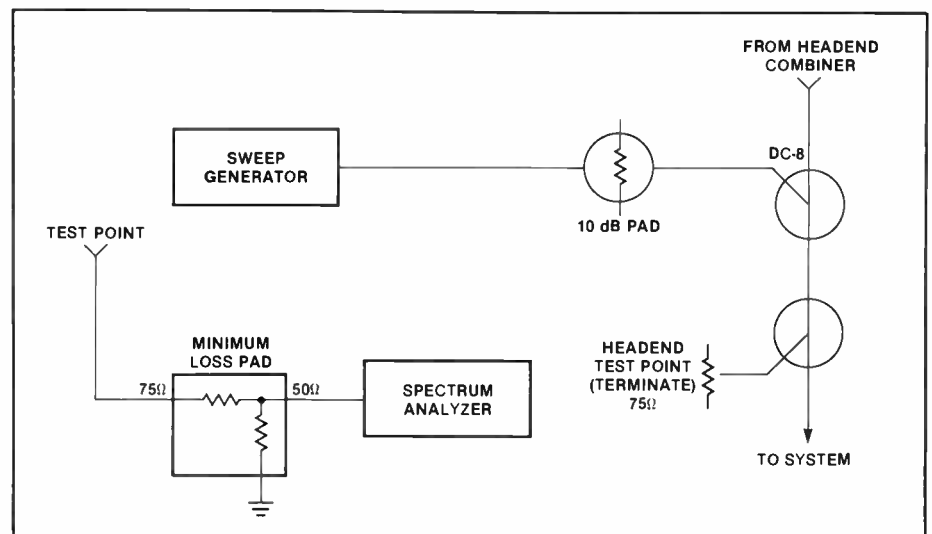

Figure 8-1 Equipment connection for distribution system frequency response measurement
1. Set up the equipment as illustrated in figure 8-1.